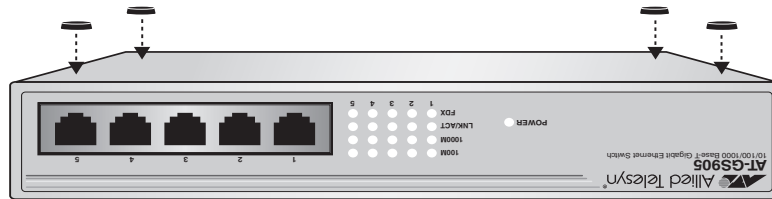

Figure 5 Attaching the Rubber Feet
2. Attach the four rubber protective feet (provided) to the bottom of the switch as shown in Figure 5.